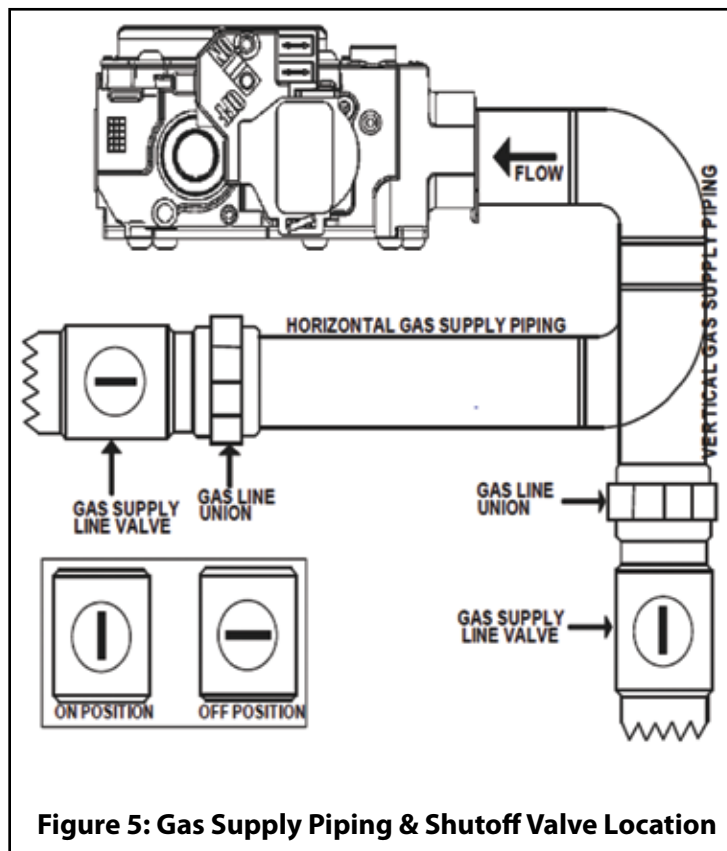

Figure 5: Gas Supply Piping & Shutoff Valve Location
5. Make sure the gas cock or valve shown in Figure 5 is in the "ON" position.
3. Turn off the valve in the gas supply line and loosen the ground union joint. Refer to Figure 5 on page 7 of the **User Information Manual**.